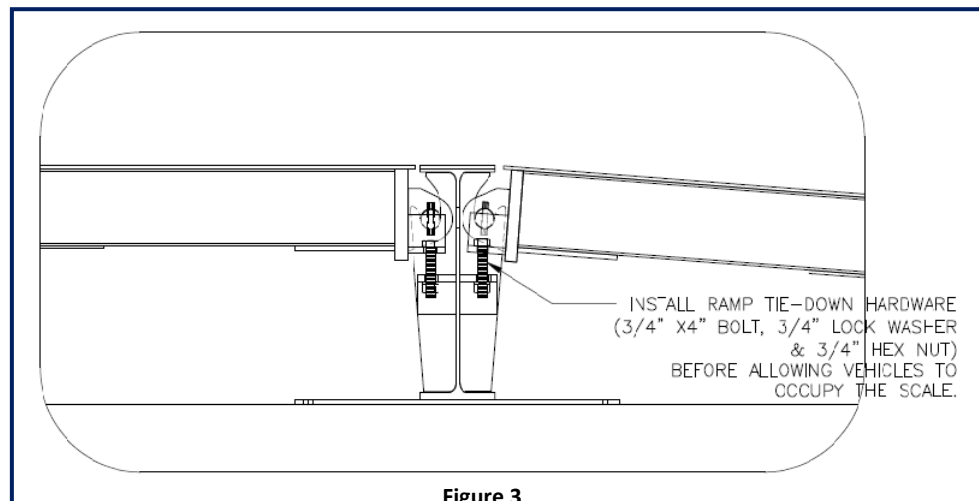

Figure 3
6. There will be a gap between these two brackets. Install provided spacers (3/4"), two spacers per mounting point, prior to installing bolt to minimize gap. Install 3/4" flat washer to connection bolt, then install 3/4" x 4" full thread bolt with washer through the two angle brackets. Bolt goes from top down. Once bolt is in place, install second 3/4" flat washer, 3/4" lock washer and then hex nut. Tighten down. See Figure 3.